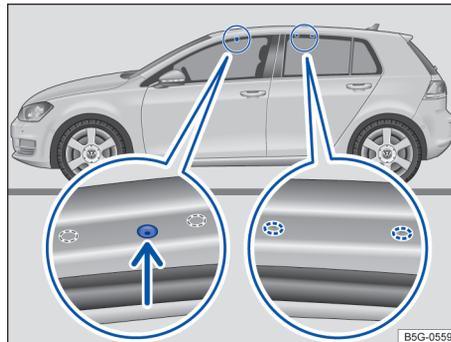

Fig. 149 Mounting points for the base carrier and roof rack.
The front mounting holes are on the underside of the roof frame. They are sealed with plastic screws that must be removed before installation → fig. 149 (magnified view on left). The rear markings for the base carrier are on the underside of the roof frame → fig. 149 (magnified view on right).
- Secure the roof rack base carrier only at the attachment points shown in the illustration → fig. 149.